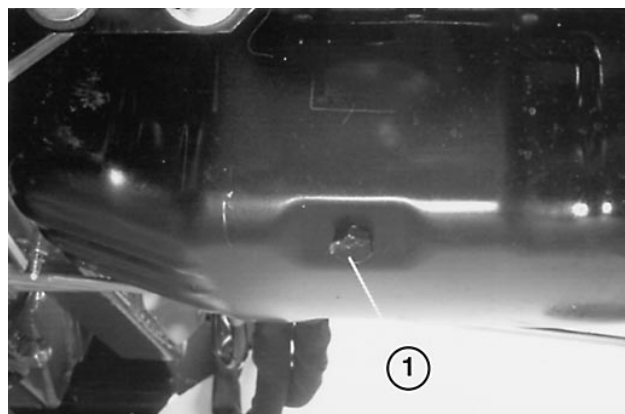

Figure 35
2. Place the drain pan in line with the drain plug (Fig. 35). Clean the area around the drain plug.